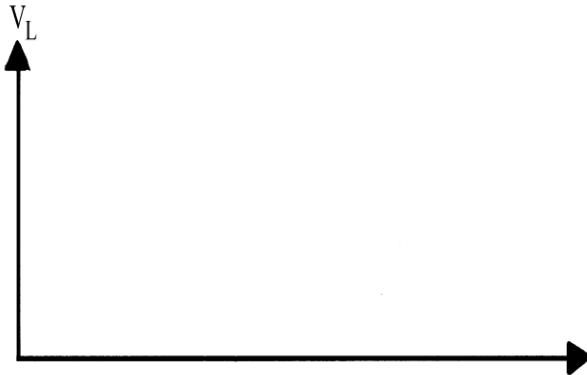

Figure 17
- Draw the output voltage (V_{RL}) waveform in detail as measured by the oscilloscope on the axis in Fig. 17, indicating the peak value. This pulsating DC waveform is also known as an unsmoothed DC waveform.
- Draw the output voltage waveform on the axis in Fig. 17 and clearly mark it 'A'.